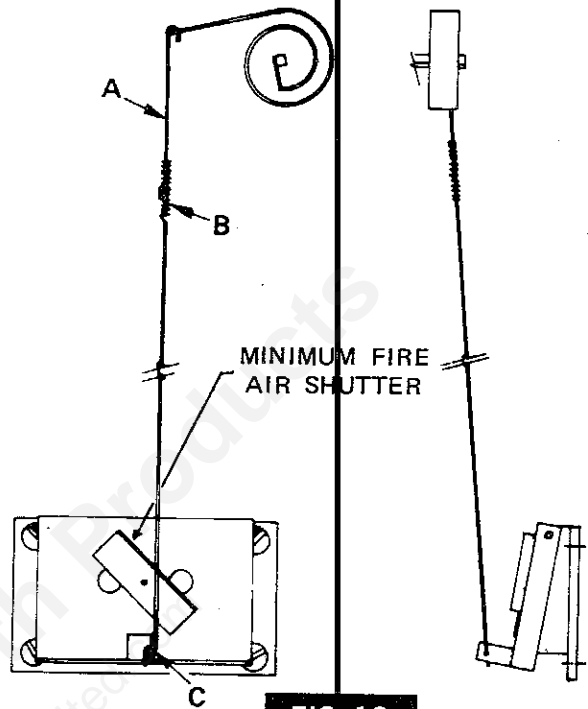

FIG. 13
- A. To increase the amount of heat at a "HIGH" setting, adjust the wire linkage to increase the draft damper opening (Fig. 13).
The burning rate at the low setting can be further adjusted by opening or closing the minimum fire air shutter (Fig. 13) on the draft control door.